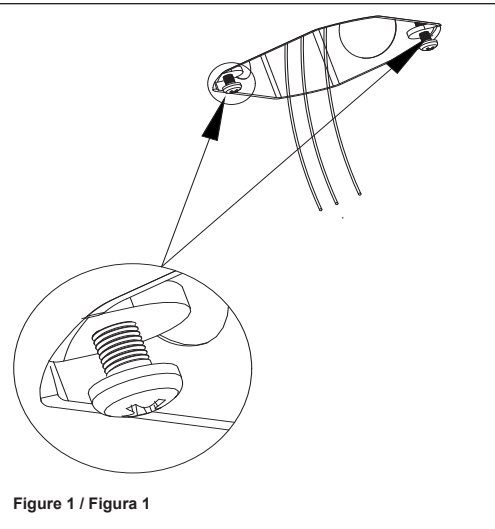

Figure 1 / Figura 1
1. Bring Hot, Neutral, and Ground power supply conductors(120V,60Hz) to the room side from junction box. Attach the supplied mounting screws into junction box mounting holes (see Figure 1).